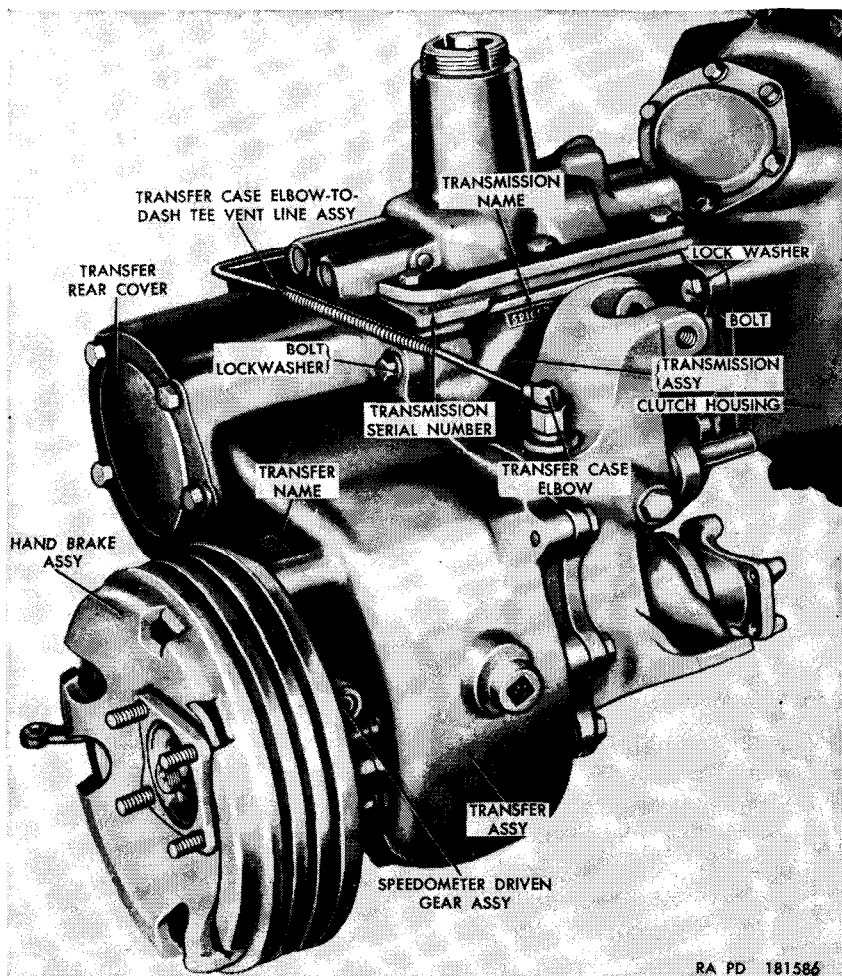

Figure 90. Transmission and transfer installed on engine.
(fig. 90)
- c. Remove the two bolts and lockwashers securing the clutch linkage inspection cover (fig. 31) and remove the cover. Reach through the inspection hole and disconnect the clutch release bearing carrier spring from the carrier and the bracket on the clutch housing and remove the spring. Remove four bolts and lockwashers (fig. 90) securing the transmission assembly to the clutch housing and remove the transmission by sliding straight back until the input shaft is clear of the housing.
a. Insert the transmission input shaft into the clutch housing, through the clutch release bearing and clutch disk, and into the clutch pilot bearing. Install four $\frac{7}{16}$ x $1\frac{1}{4}$ bolts and lockwashers (fig. 90) securing the transmission to the clutch housing. Working through the inspection hole in the top of the housing, install the clutch release bearing carrier spring by hooking one end to the bracket on the housing and the other end in the hole in the carrier. Place the clutch linkage inspection cover (fig. 31) over the inspection hole and secure with two $\frac{1}{4}$ x $\frac{1}{2}$ bolts and lockwashers.